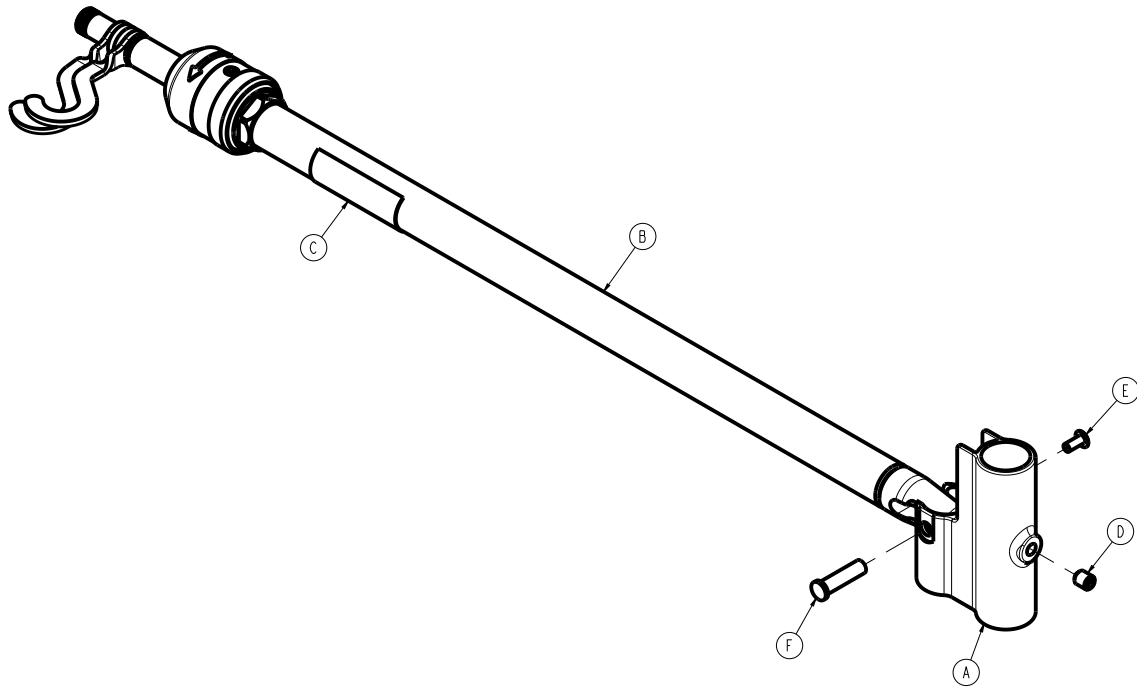

Figure 55 – Attaching the dual IV pole, bottom
7. Using a 5/32" hex wrench, tighten the set screw (D) to secure the bottom IV receptacle (A) to the bed IV post (Figure 55).